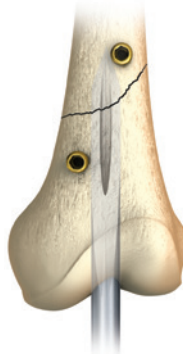

Figure 9
3. Confirm proper screw placement (Figure 9).